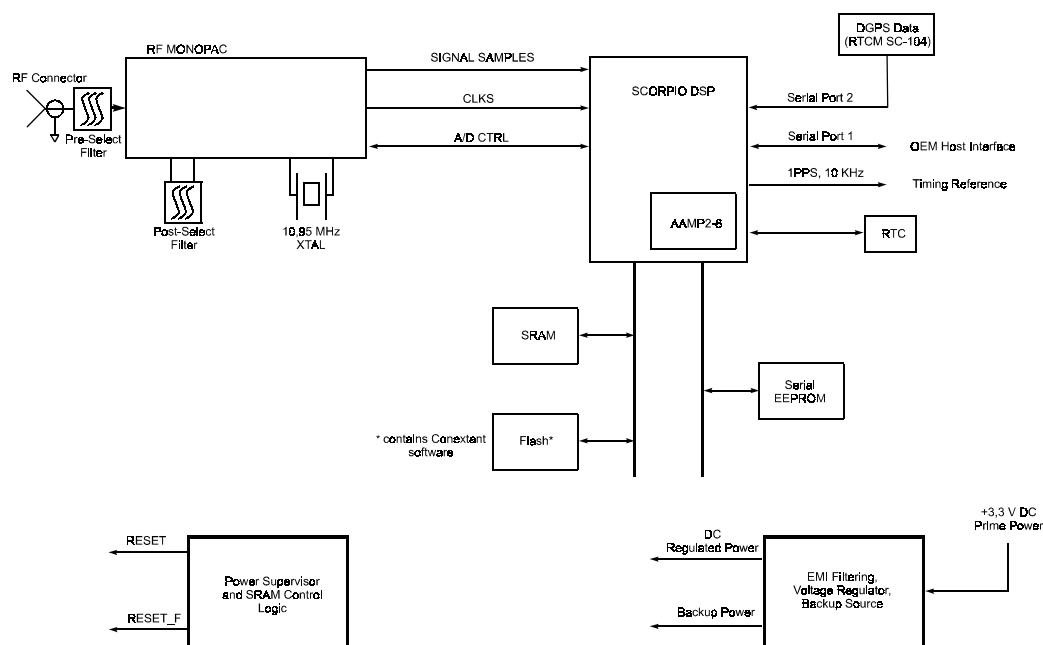

Figure 7: GPS receiver architecture
The functional architecture of the GPS receiver is shown in Figure 7. The GPS receiver design is based on the Conexant Zodiac chip set, the RF-Monopac and the Scorpio DSP, which contain the required GPS functionality. The RF-Monopac contains all the RF down-conversion and amplification circuitry, and presents the In-Phase (I) and Quadrature-Phase (Q) Intermediate.